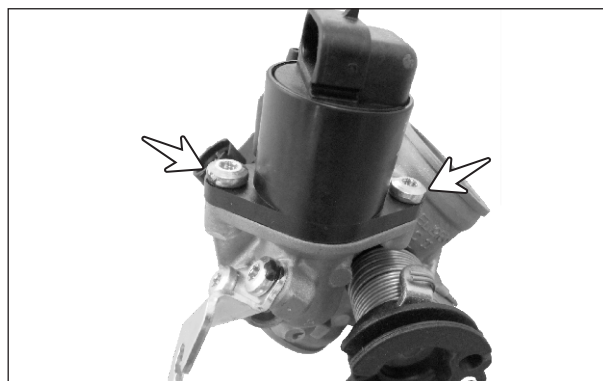

Fig. 4.14
- Remove the torsional screw (2nos.) from the idle stopper unit and gently pull out the idle stopper unit along with a 'O' ring. (Fig. 4.14)